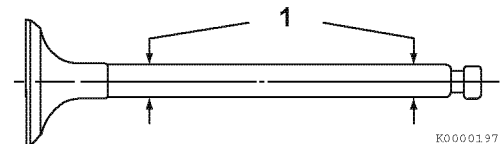

Figure 6-18
Use a micrometer to measure the valve stem diameter. Measure the valve stem near the combustion end and near the opposite end (**Figure 6-18, (1)**). See *Intake/Exhaust Valve and Guide* on page 6-5 for the service limit.